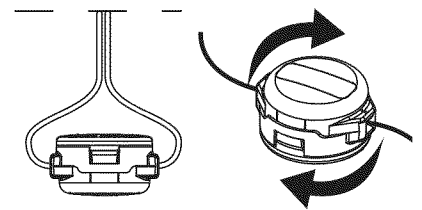

Fig. 17
2. Using 10.5 ft. (3.2 m) of 0.095 in. (2.41 mm) replacement line push an end of the line through one of the eyelets until it protrudes through the opposite side. Continue pushing or pulling the line until the line is evenly distributed, so approximately 5 ft. (1.5 m) is visible from both sides of the cutting head.(Fig. 17)
3. Hold the cutting head knob and turn the cutting head clockwise to wind the line around the inner reel until 5 in. (12.7 cm) is protruding from each side of the cutting head.(Fig. 17)